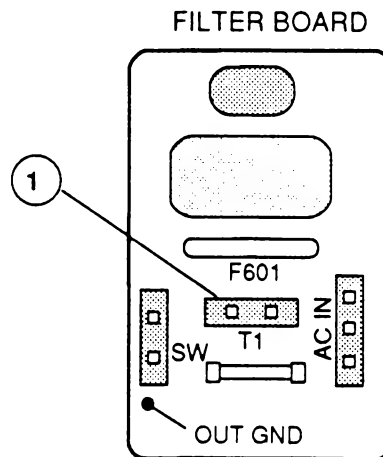

**FIGURE 20**
3. Disconnect the black-and-white pair of wires from T1 on the line filter board (Figure 20, #1).